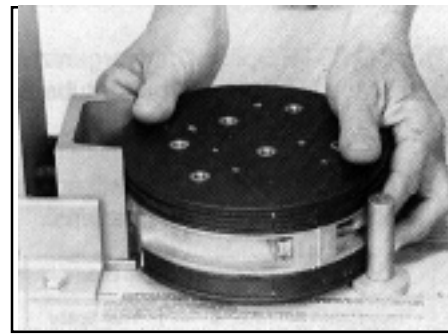

FIGURE 7 – END PLATE SHOWING THE DESIGNATED DRILL MARKS
5.01 Locate the designated drill marks on the End Plate (highlighted in yellow). These marks should face up when placing End Plate in Power End Plate Cutter. (Figure 7)